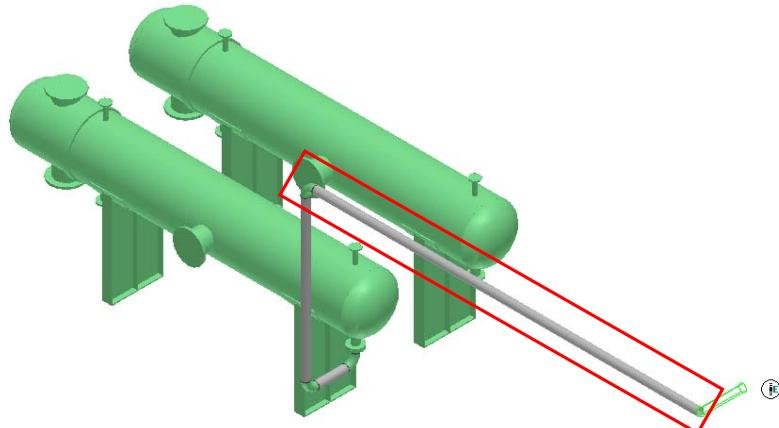

Figure 33: Placed Pipe
35. Now, on the **Route Pipe** ribbon, key in **20 ft** in the **Length** drop-down list and use SmartSketch to locate the **N** glyph. Click in the graphic view to place the pipe, as shown in Figure 33.